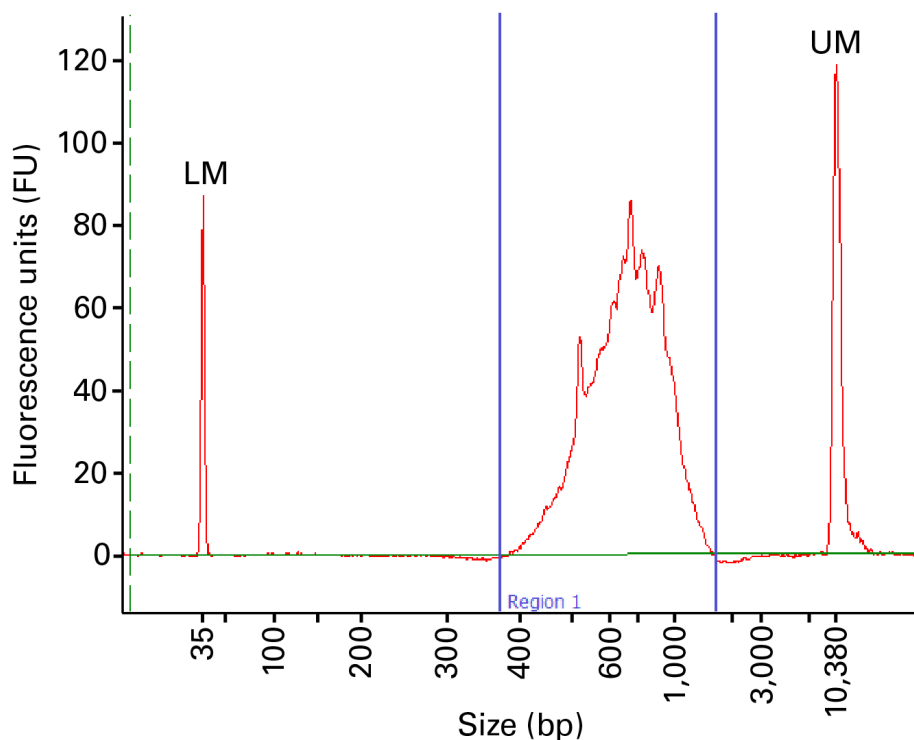

Figure 47. Typical Bioanalyzer trace for purified Nextera XT NGS library that has been normalized to 1 ng/ μ l.
29. Use the Bioanalyzer results to determine library quality (see Figure 47, below, for an example of a typical Bioanalyzer profile for an NGS library that has been successfully purified and size selected).